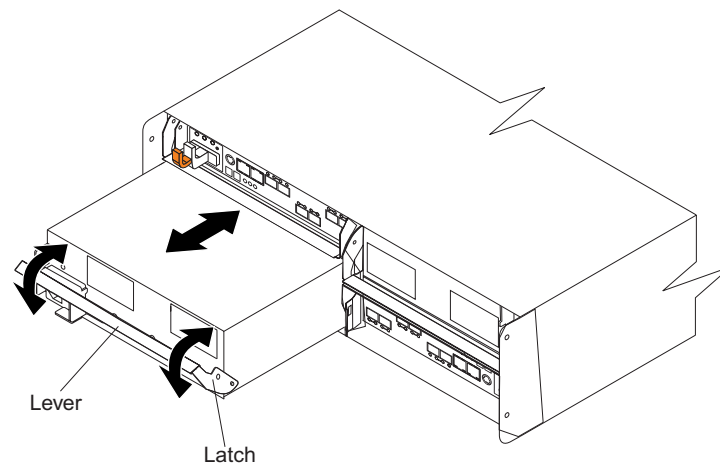

Figure 85. Replacing a power supply and fan unit
Use the following procedure to replace an ac power supply and fan unit. Figure 85 on page 147 illustrates removing and inserting a unit.
11. Slowly pull the lever away from the chassis to remove the power supply and fan unit, as shown in Figure 85 on page 147.